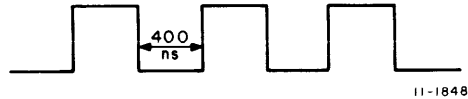

Figure 5-4 Clock Signal
2. Set only CSR (08).
3. With the scope, check E33, pin 13, for the clock signal shown in Figure 5-4. Trace the signal through to all destinations (pins 9 of E51, E53, E56, and E68). This verifies that the clock is running and that it is present at all its destinations. At any point that it does not appear, of course, further standard techniques should be followed.